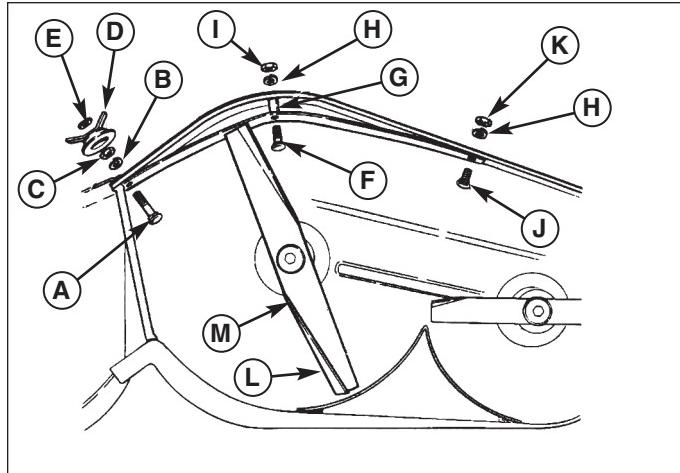

Figure 10. Install Baffle - 34" Models
2. Position baffle with notched end towards discharge side opening. Install all hardware as shown in figure 10. The notch must be positioned to clear the stone guard weldment.